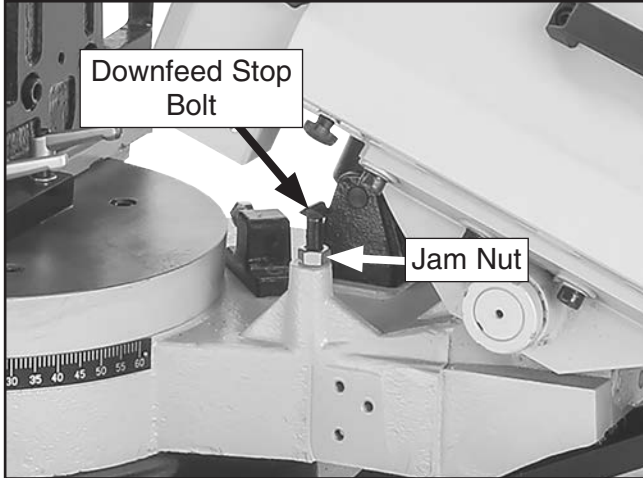

Figure 95. Location of downfeed stop bolt and jam nut.
- Loosen jam nut shown in **Figure 95**, then tighten downfeed stop bolt until blade is just below table surface.
- Loosen downfeed stop bolt (see **Figure 95**) until it contacts headstock.